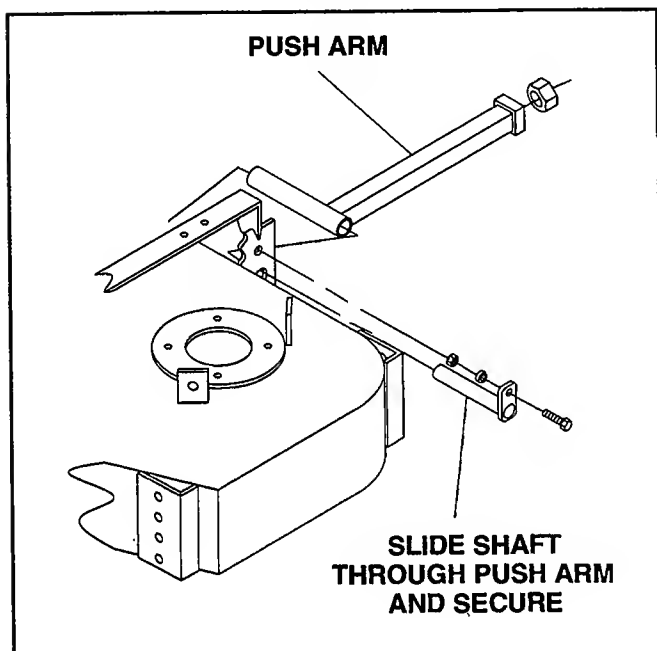

Figure 3
9. Remove shaft from deck mounting bracket. Line up holes in deck mounting bracket with holes in push arm. Attach cutter deck to push arms by sliding shaft through holes after aligning. (See Figure 3) Secure with existing 5/16-18 x 1" hex head bolt, 5/16" lockwasher, and 5/16" hex nut.